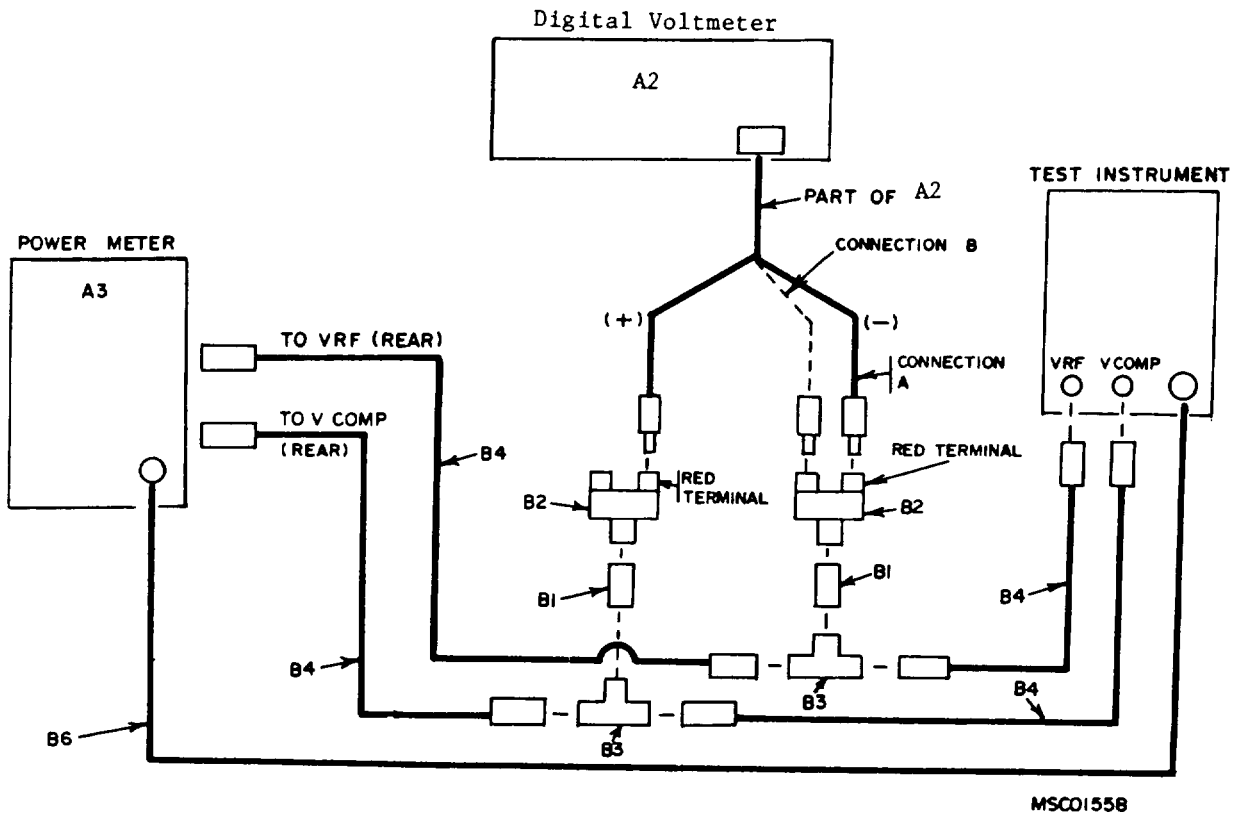

Figure 1. Range accuracy - equipment setup.
(1) Connect equipment as shown in figure 1, connection A.
(2) Position power meter (A3) controls as listed in (a) through (d) below:
(1) Connect digital voltmeter (A2) as shown in figure 1, connection B.
(2) Turn TI POWER (mW) switch to .01.
(3) Turn TI FUNCTION switch to SET.
(4) Set power meter (A3) MOUNT RESISTANCE switch to 200Q. The digital voltmeter will indicate between 5.890 and 5.91 V de.
(5) Turn TI FUNCTION switch to CHECK. The digital voltmeter will indicate between 2.190 and 2.210 V de.
(6) Turn TI FUNCTION switch to 200il. The digital voltmeter will indicate between 5.897 and 5.903 V de.
(7) Turn TI POWER (mW) switch to .03, .1, .3, 1, 2, and 3. In each position the digital voltmeter will indicate between 5.897 and 5.903 V dc.